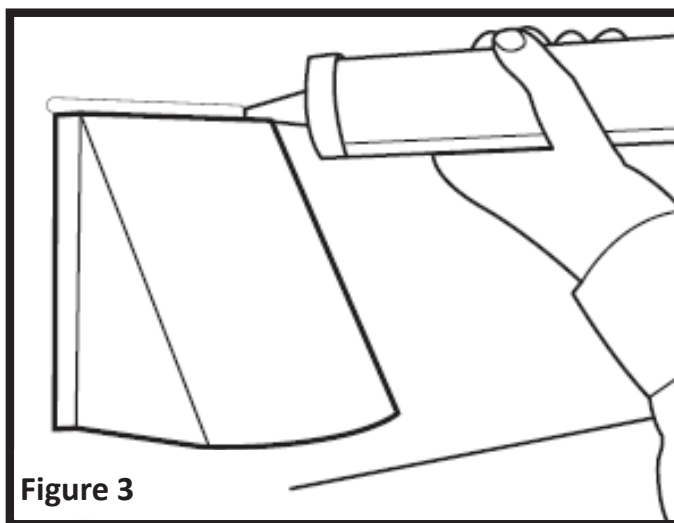

Figure 3
4. Secure the Air Intake Hood to the outside wall using two (2) screws (not included). Caulk around the intake hood cover (**Figure 3**).